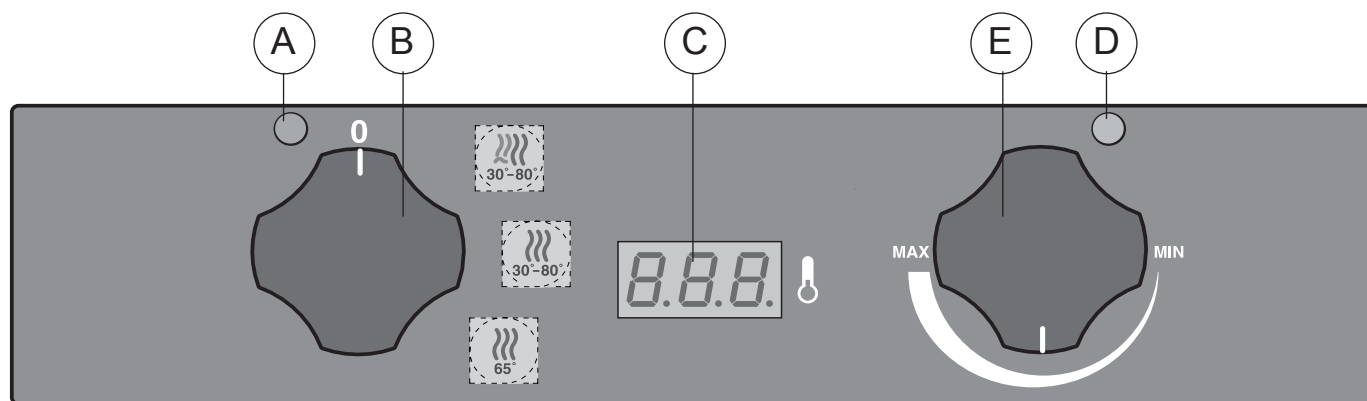

Fig. 4
- 30 - 80 °C for the heating or leavening phase of food with or without humidifying the chamber and checked by thermostat "E" and shown in the thermoregulator "C" (fig. 4);
3. START UP SYSTEM (fig. 4)
3.1 CONTROL PANEL DESCRIPTION (fig. 4)
3.2 START UP SYSTEM (fig. 4)
4.1 "HEATING WITH HUMIDIFYING" CYCLE ON "1" SETTING (fig. 4)
4.2 "DRY HEATING" CYCLE ON "2" SETTING (fig. 4)
4.3 "MAINTENANCE" CYCLE ON "3" SETTING (fig. 4)